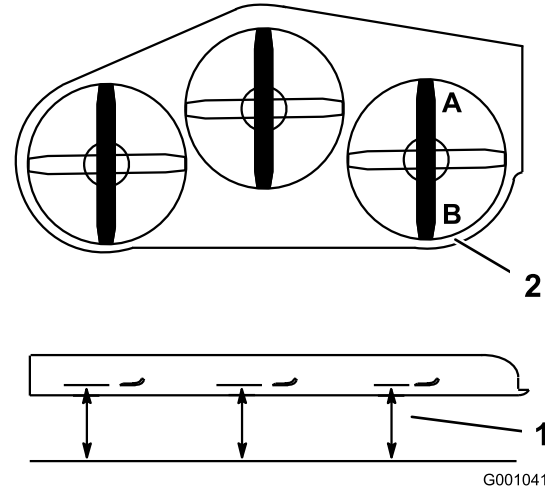
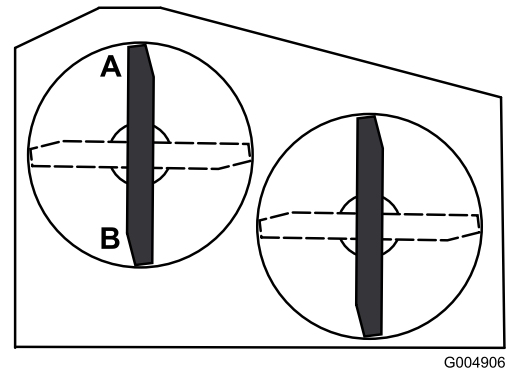

Figure 73
Figure 74
blade tips (Figure 73 or Figure 74). For 36 inch mower decks use Figure 74.
4. Position the blades front-to-rear. Measure at C and D locations (Figure 73) from a level surface to the cutting edge of the blades.